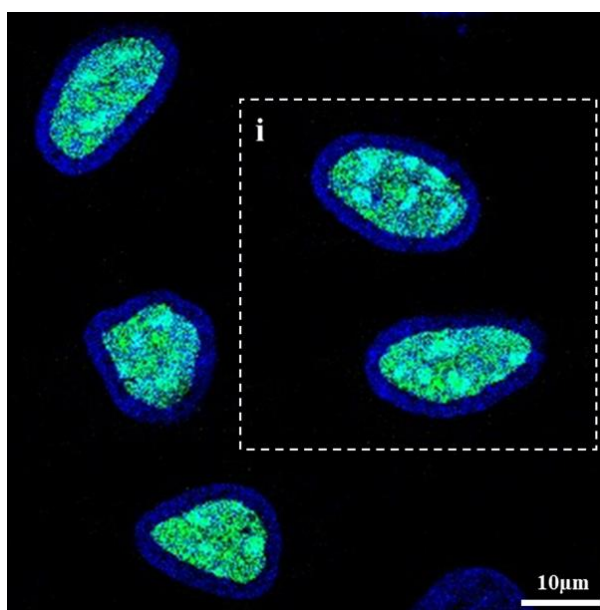
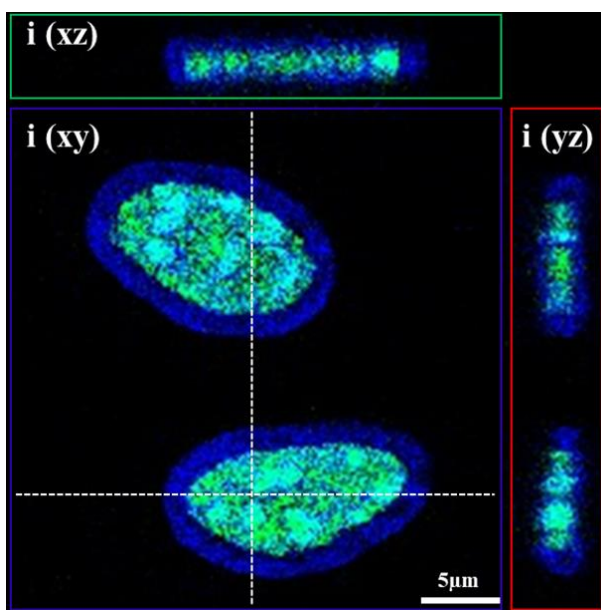

Fig. 8.9 The confocal fluorescence image of a photolabeled PL sample
Fig. 8.10 The orthogonal view of confocal image
Step7: Use an inverted confocal microscopy system with the imaging channel of excitation at 493 nm and emission at 518 nm for checking labeling accuracy. The photolabeling signal is expected to localize in the cell nuclei as shown in Fig. 8.9 and Fig. 8.10.